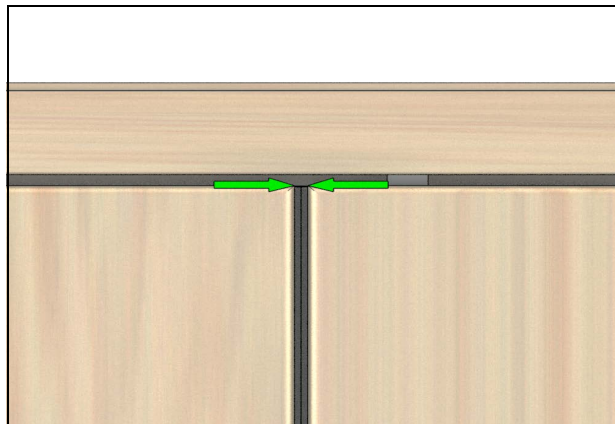

Figure 24
3. Close the panel(s) and check the margin between the active and inactive panel or panel and jambs. The door is designed to have a 1/8" (3) gap between the wood stiles. See Figure 24.